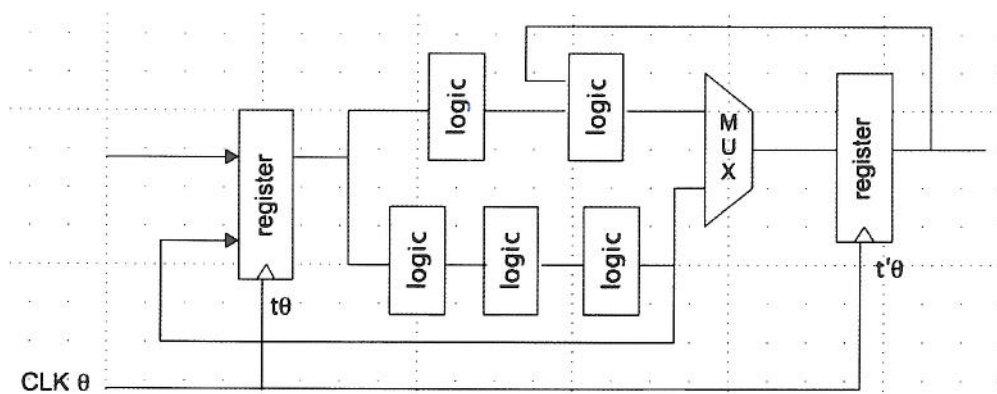

Figure 5.1
5. a) For the circuit in *Figure 5.1*, assume a two unit delay through the register and logic blocks (i.e., $t_R = t_L = 2$). Assume that the registers, which are positive edge-triggered, have a setup time t_S of 1 and zero hold time. The delay through the multiplexer t_M equals t_R .